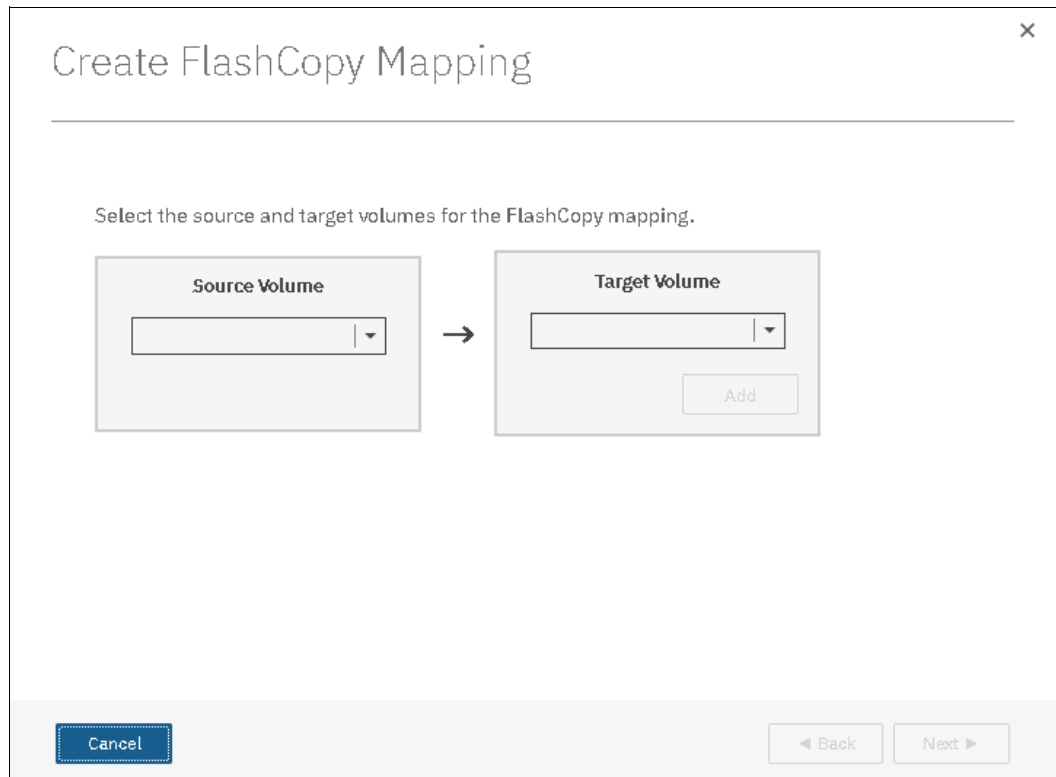

Figure 10-37 FlashCopy mapping creation
3. The Create FlashCopy Mapping window opens, as shown in Figure 10-37. In this window, you must create the relationships between the source volumes and the target volumes.